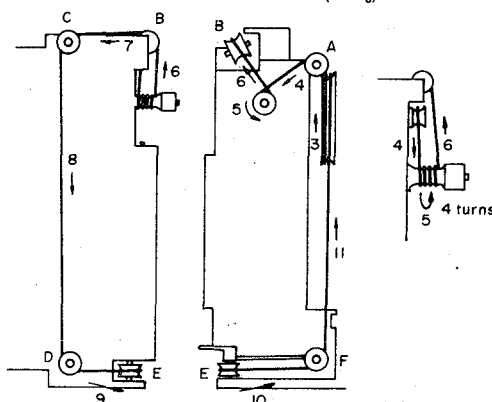

Fig. 18
- Wind the dial cord as shown in Fig. 18.